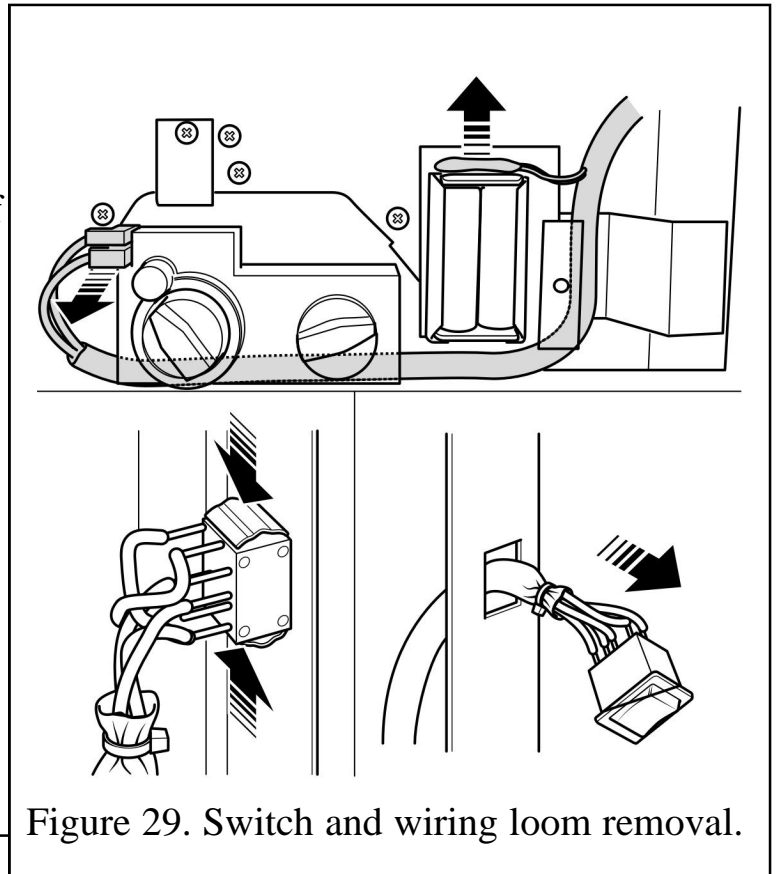

Figure 29. Switch and wiring loom removal.
(See figure 29).
- When replacing, make sure that the wiring loom runs above and down to the right of the battery box and behind the control valve(See figure 29).